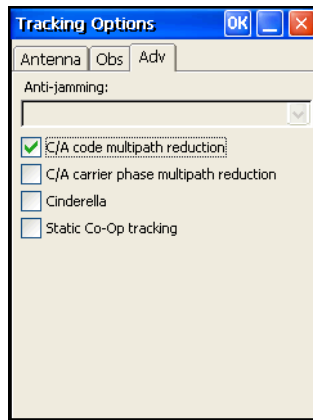

Figure 3-21. Configure Advanced Parameters
10. Click the **Advanced** tab. Set the following parameters, and click **OK** (Figure 3-21 on page 3-24).